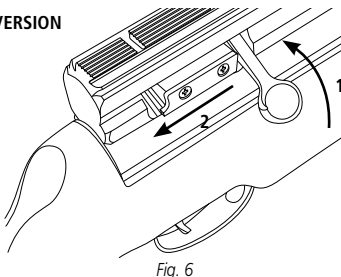
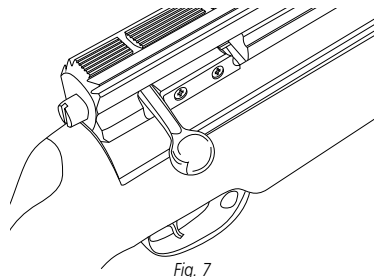
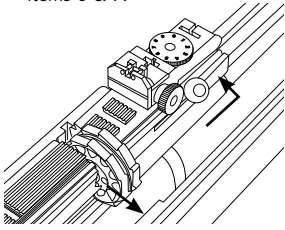

Fig. 6
Fig. 7
Fig. 8
2. To fit the magazine on the air rifle; lift the cocking bolt, pull it backwards and lock it in the rear. (Fig. 6, Fig. 7). **THIS OPERATION COCKS THE TRIGGER MECHANISM/HAMMER ASSEMBLY. IF THE SAFETY IS SET TO OFF POSITION AND THE TRIGGER IS PULLED, THE RIFLE WILL DISCHARGE.** Push forward the magazine release bolt and lock it upwards. Remove the magazine by pulling it to the right. (Fig. 8)